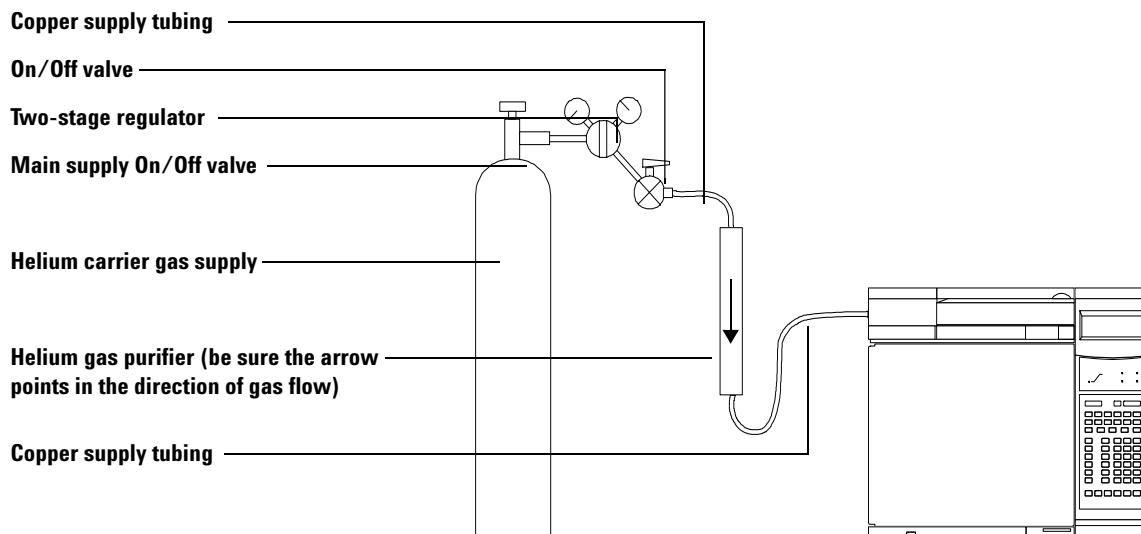

Figure 4 Connect helium
- 1 Connect the 6-foot copper tubing (or a custom length) to the carrier gas supply line (Figure 4).